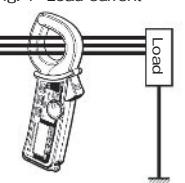

Fig. 3 Measuring out of balance leakage current
(3) Measuring out of balance leakage current (See Fig. 3): Clamp onto all conductors except a grounded wire. Measured current value is shown on the display.